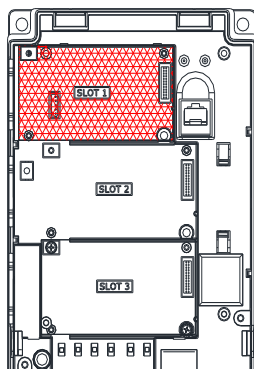

Figure 1
Step 1: Insert the EP302 card into the SLOT 1 on the control board as shown in Figure 1. Do not insert to SLOT 2 or SLOT 3 .